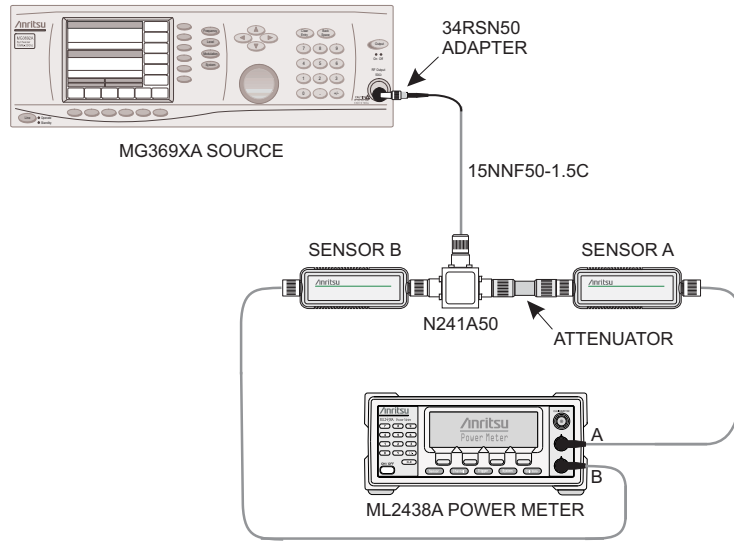

Figure 1. Level Accuracy with Frequency Test Setup
9. Connect the power splitter to the MG3692A output and Sensor B to one of the power splitter outputs. Install the 10 dB Fixed Attenuator to the other power splitter output and then connect Sensor A to the end of the Attenuator. Refer to Figure 1.